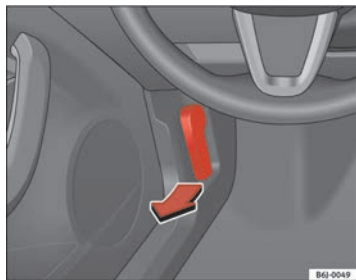

Fig. 111 Bonnet opening lever
- To release the bonnet, pull the lever under the dashboard ⇒ fig. 111 in the direction indicated (arrow). The bonnet will be released by a spring action ⇒ ⚠.